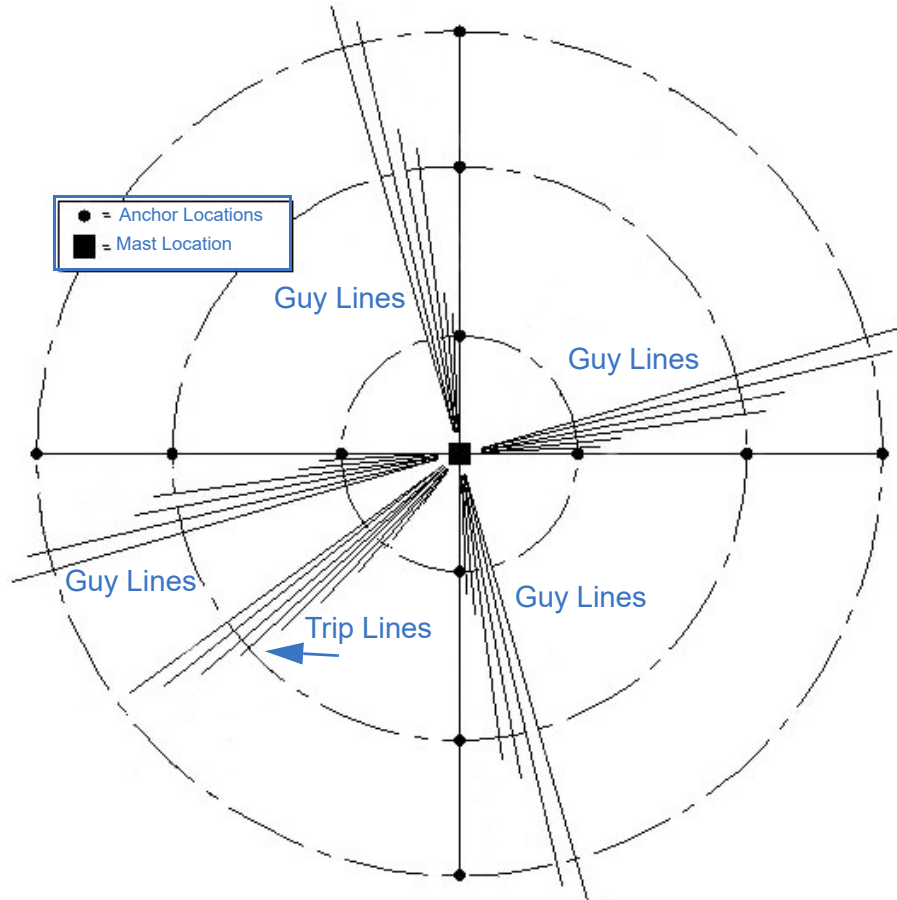

Figure 6-11 Sample of Laying Out Guy Lines and Trip Lines (Mast with 4 Way 5 Level Guying Shown)
- Prior to extending the mast, The Will-Burt Company recommends laying out the guy lines and trip lines so they do not become tangled during extension (Figure 6-11).